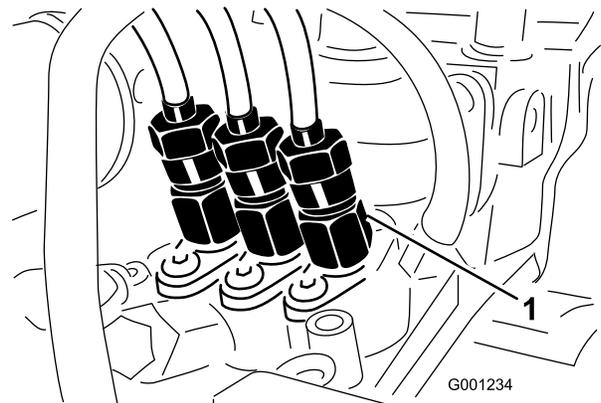

Figure 53
1. Loosen the tube nut at the No. 1 injector nozzle and holder assembly at the injection pump (Figure 53).